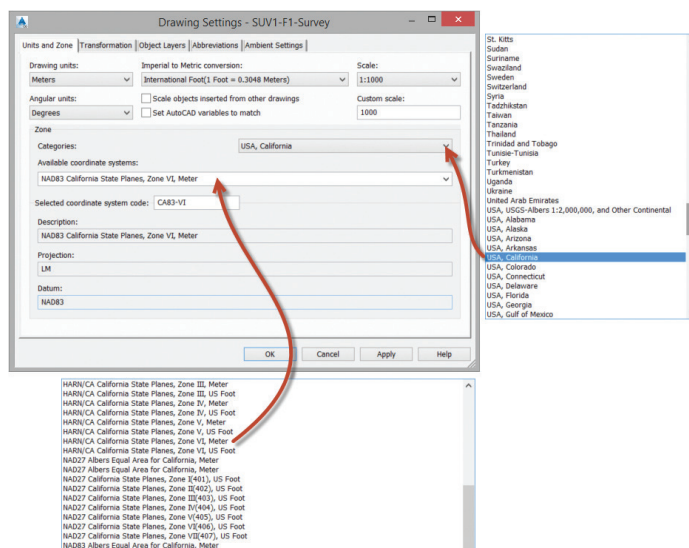

Figure 3: Drawing settings
2. On the Units and Zone tab of the Drawing Settings dialog box, select the appropriate category and coordinate system, as shown in Figure 3.